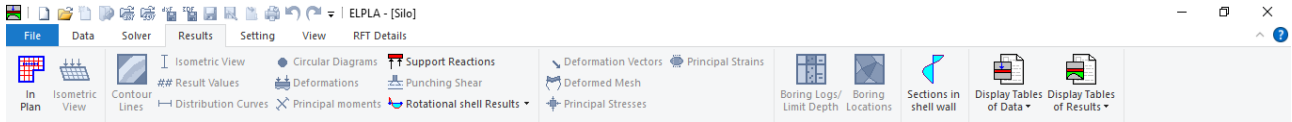

Figure 13.25 "Results" Tab
*ELPLA* can display and print a wide variety of results in graphics, diagrams or tables through the "Results" Tab. To view the data and results of a problem that has already been defined and analyzed graphically, switch to "Results" Tab (Figure 13.25).